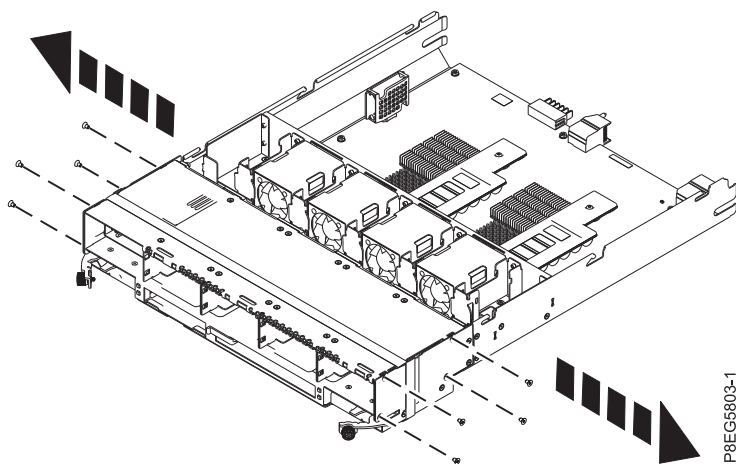

Figure 12. Removing screws from the RAID assembly
12. Remove four screws from each side of the RAID assembly by using a T10 Torx screwdriver. See Figure 12